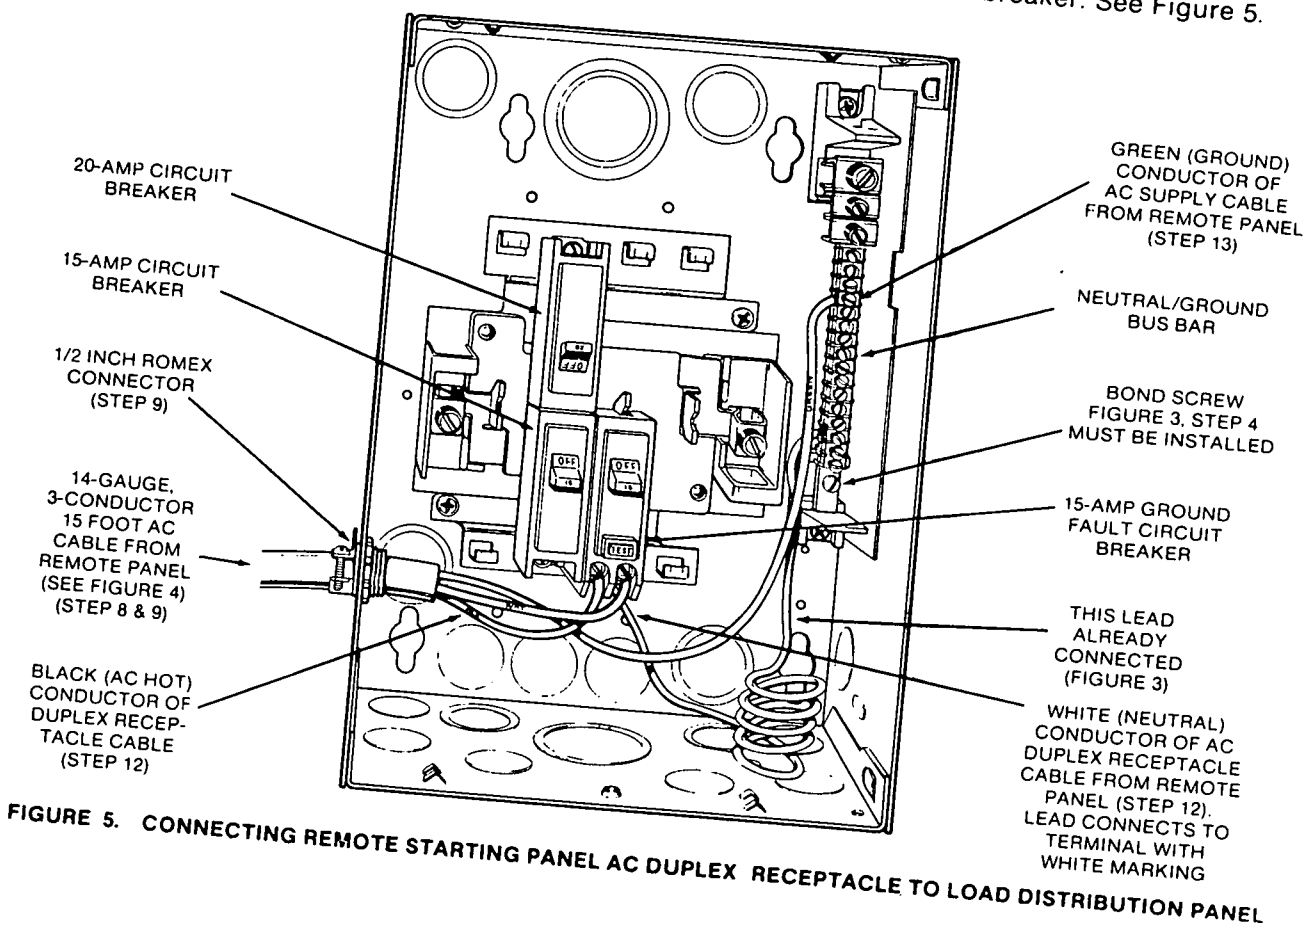

FIGURE 5. CONNECTING REMOTE STARTING PANEL AC DUPLEX RECEPTACLE TO LOAD DISTRIBUTION PANEL
9. Route the AC cable through a 1/2 inch Romex connector at the entry point (knock-out) going into load distribution panel as shown in Figure 5.
12. Connect the black and white conductors to the 15-amp circuit breaker which has the built-in ground fault protection. Note the white marking on the circuit breaker for the correct location of the white conductor. The black conductor goes to screw terminal marked "Load" on side of circuit breaker. See Figure 5.